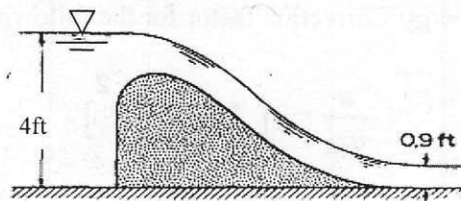

Figure 10
(b) Flow occurs over a spillway of constant section as shown in Figure 10. Determine the horizontal force on the spillway per foot of spillway width. (6)